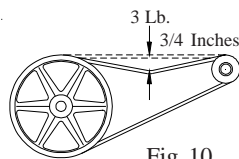

Fig. 10
- **Check belt tension.** A 3 lb. force should deflect the belt 3/4 inches (see Fig. 10). Readjust belt if needed.